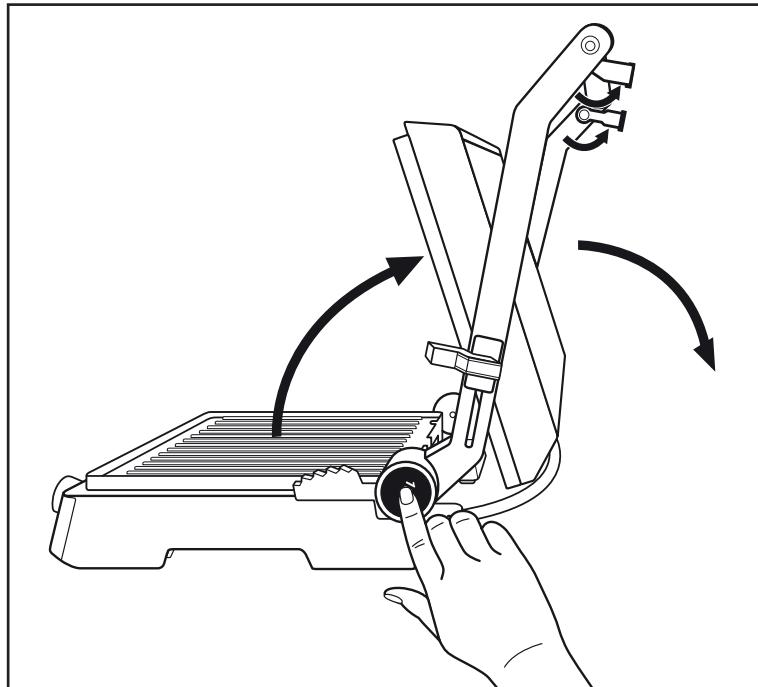

Fig. 1
- 1) Fold out both support feet ① (Fig. 1).
- 2) Press the unlocking button 180° ③ (Fig. 1) and open the appliance lid until both hotplates ⑩ can be used as a table grill.